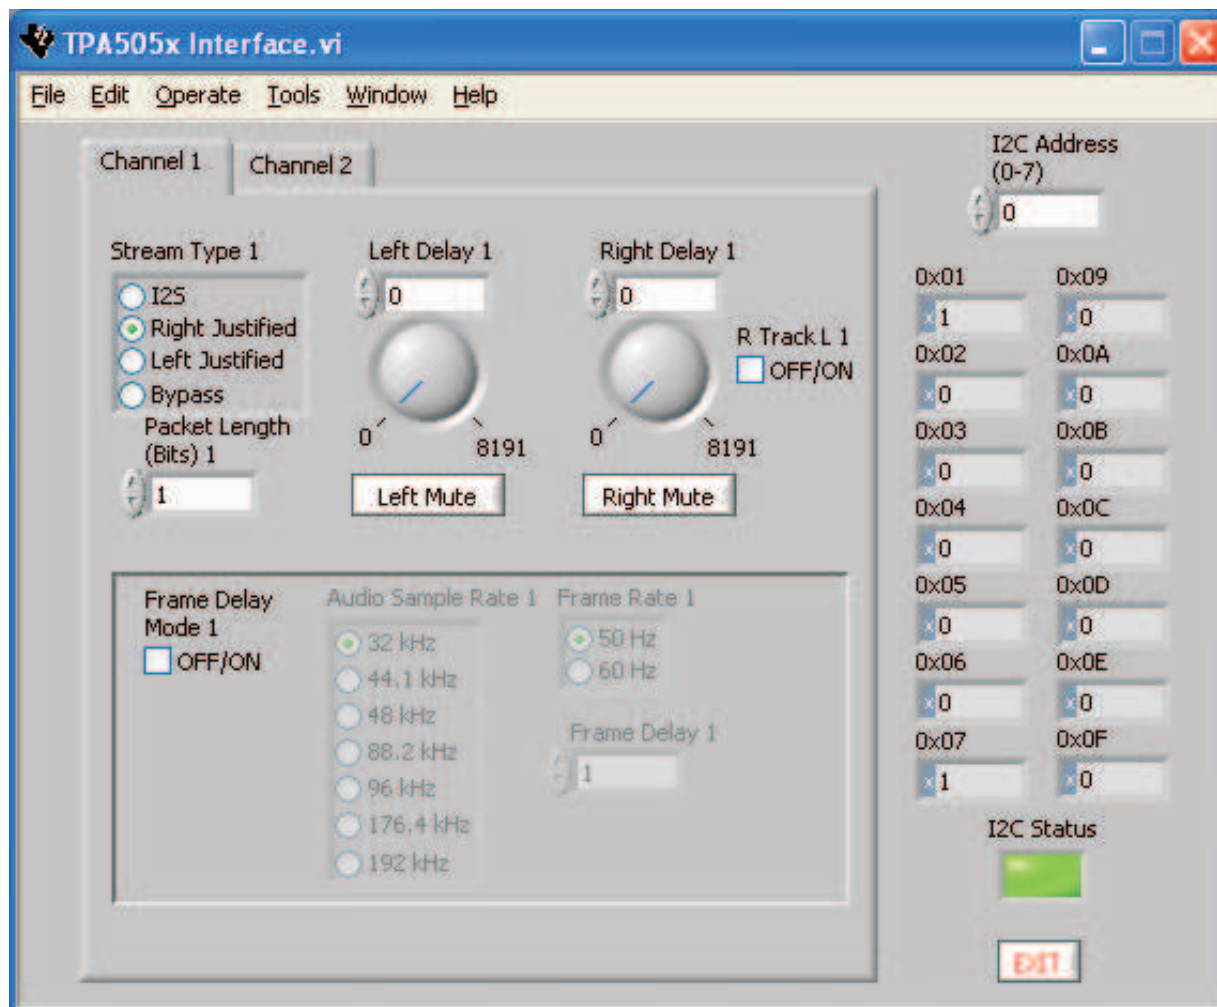

Figure 3. TPA5050 in Right-Justified Mode
6. Clicking on the Right Justified mode under *Stream Type* brings up a hidden window, called *Packet Length*. Through this, the number of packet lengths to be delayed can be entered (see Figure 3).